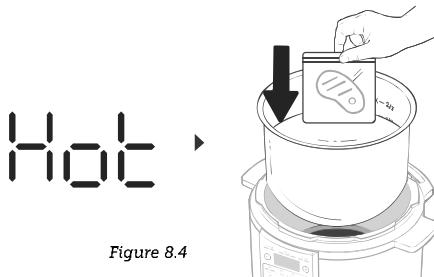

Figure 8.4
9. When the display says 'HOT', remove the lid and carefully submerge the food in the inner pot. [Figure 8.4]